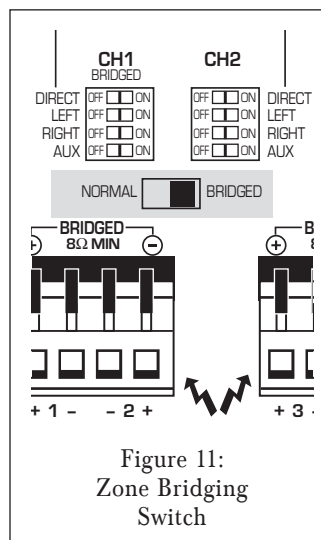

Figure 11:
Speaker Connections for Bridged Operation (see Figures 11 & 12)
- Move the NORMAL/BRIDGED switch for the zone to the BRIDGED position (see Figure 11).